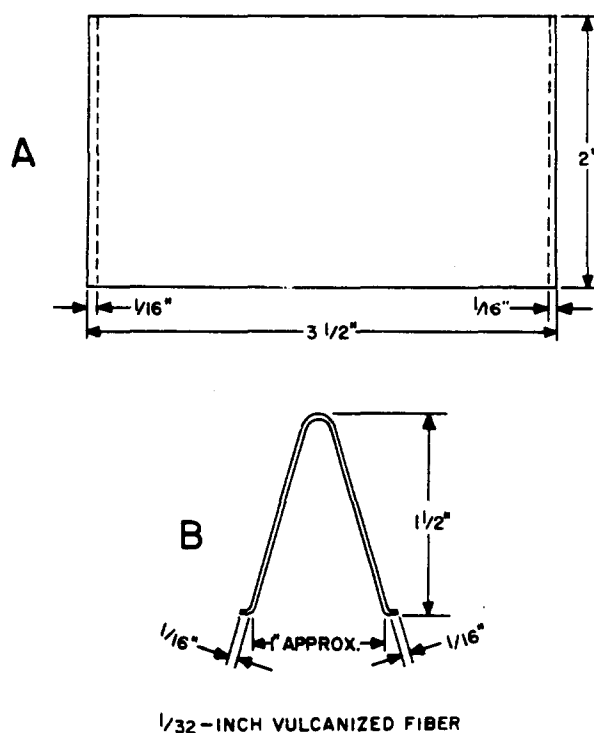

Fig. 1 – Insulating Shield for Protector Springs
- (1) Cut a piece of 1/32-inch thick vulcanized fiber to the dimensions shown in A, Fig. 1.
- (2) Soak the fiber in water.
- (3) Bend the fiber to the shape shown in B, Fig. 1.
- (4) Allow the fiber to dry thoroughly before using.
4.01 Adjacent springs on the same side of the protector strip should be protected from crosses which might be caused by the wire cleaning brush. Use the insulating shield shown in Fig. 1 for this purpose. Hold the sides of the shield together and insert the shield between the springs to be cleaned and the springs of the protector directly above and below.